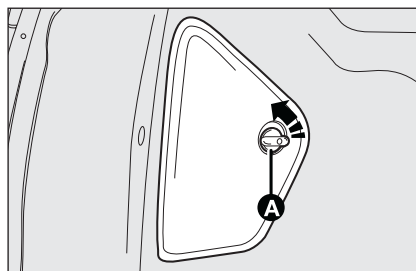
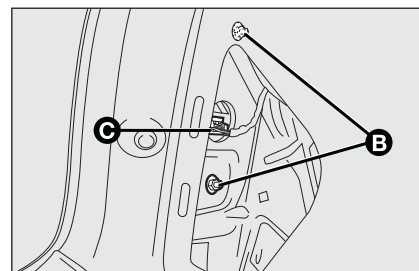

fig. 27
fig. 28
- ☐ turn the fastener **A**-fig. 27 counter-clockwise (for the left lid) or clockwise (for the right lid) and remove the cover;
- ☐ disconnect the electrical connector **C**-fig. 28;
- ☐ refit the bulb holder and make sure the two tabs are fastened and then connect the electrical connector **C**-fig. 28; drive in the two fastening nuts **B**; refit the cover checking that the tabs are fitted in their seat and turning the fastener **A**-fig. 27 counter-clockwise (for the left lid) or clockwise (for the right lid) to hook it.